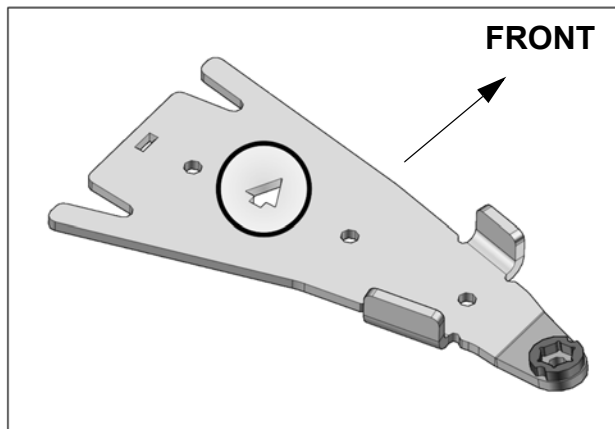

Fig. 1
- For installation purposes, directional arrows have been cut out of some components in the anchor bracket kits. These arrows indicate the front of the vehicle relative to the component. See Fig. 1